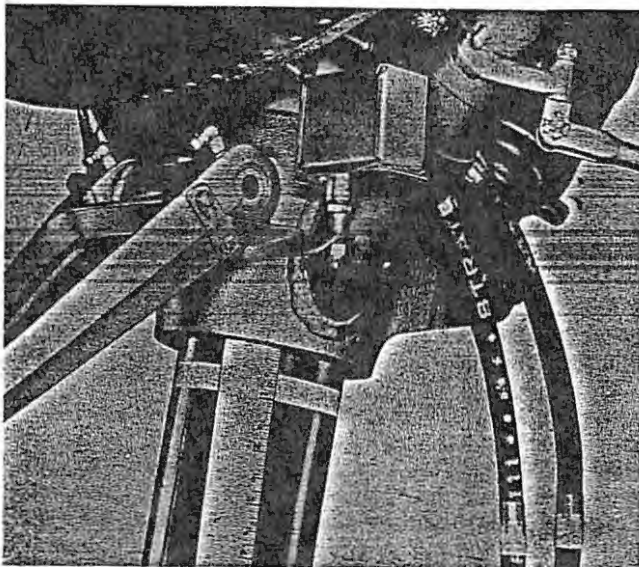

Figure 2-91. Landing Gear Safety Switch Adjustment
- e. Lower wheel, then raise it carefully to the point where the switch clicks again. Mark this location of shock strut and remove jack from under the fork assembly. The distance from this mark with shock fully extended should be 1/2-inch (figure 2-91).